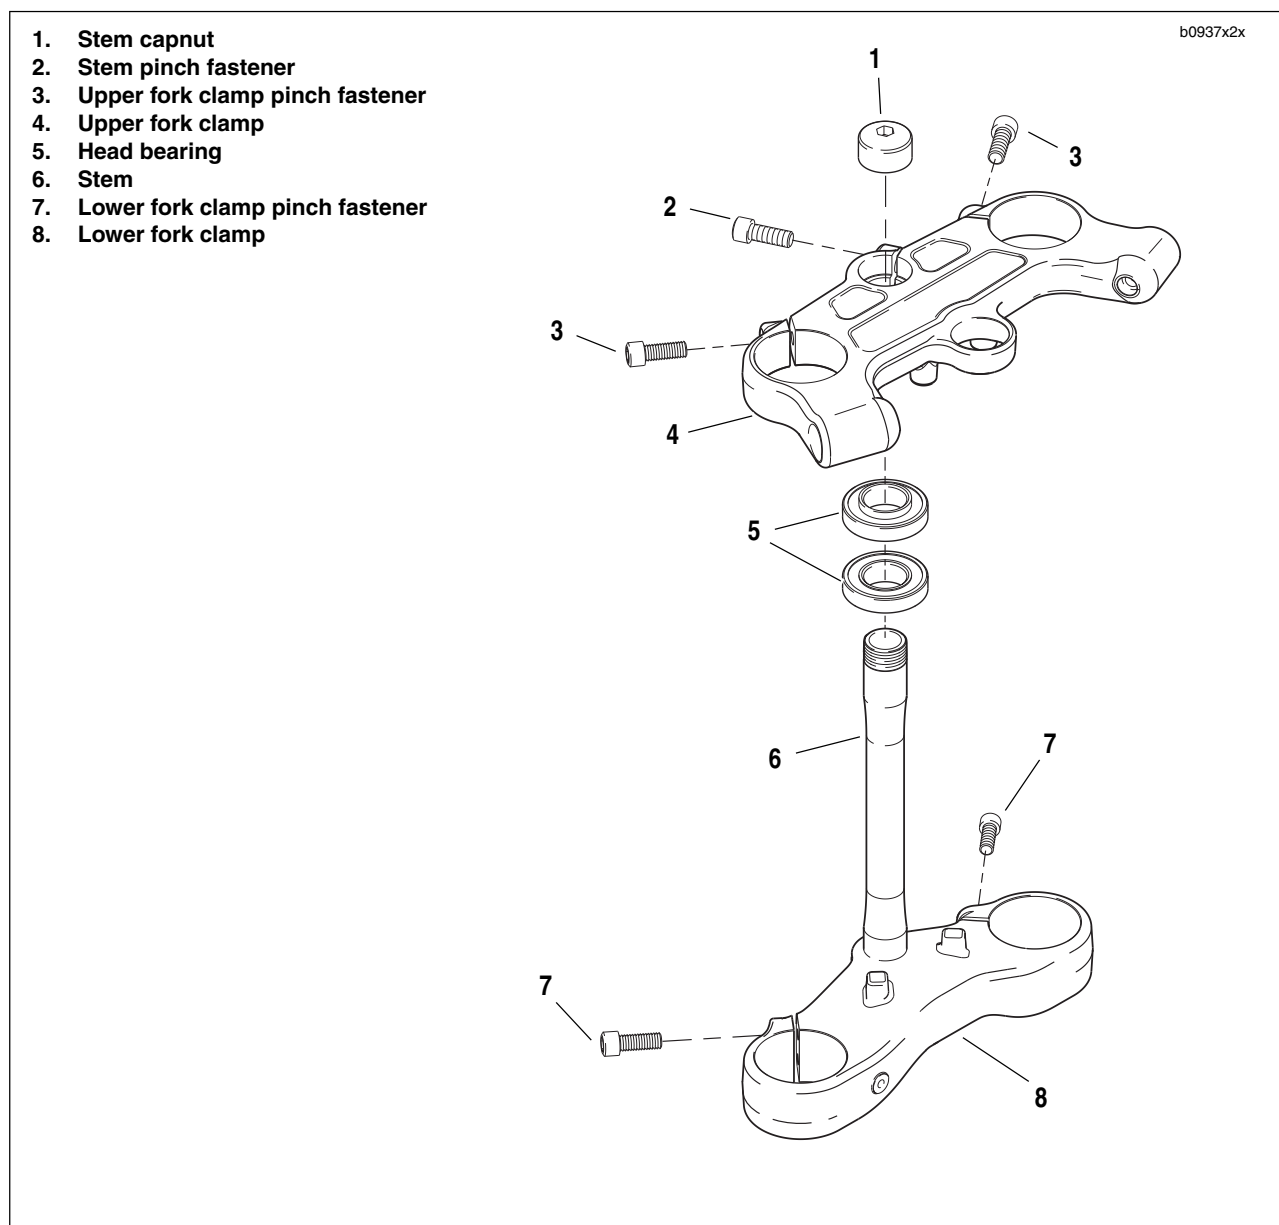

Figure 2-75. Steering Stem Assembly
5. See Figure 2-75. Remove steering stem pinch fastener (2).
8. See Figure 2-75. Hold or brace the lower fork clamp and remove steering stem cap (1).
9. Remove the upper fork clamp (4).
10. Remove the lower fork clamp (8).
1. See Figure 2-75. Install the lower fork clamp (8) into the steering stem bore and install the upper fork clamp (4).
2. Install steering stem cap (1). Thread on by hand but do not torque.
- a. See Figure 2-75. Loosen steering stem pinch fastener (2) and upper and lower fork clamp pinch fasteners (3, 7).
- b. Brace wheel while removing steering stem cap fastener (1).
- c. Remove upper fork clamp (4) and front-end assembly which includes front wheel, steering stem/lower fork clamp.
5. Remove upper and lower steering head bearings (5).